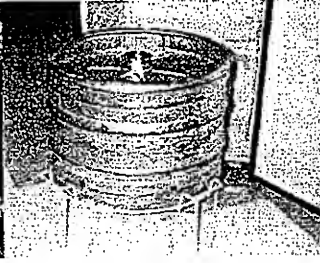

Fig. 5
- Position the keg stand directly in front of the open door. Using keg handles only, carefully lift the beer keg onto the stand. (See Figure 5)